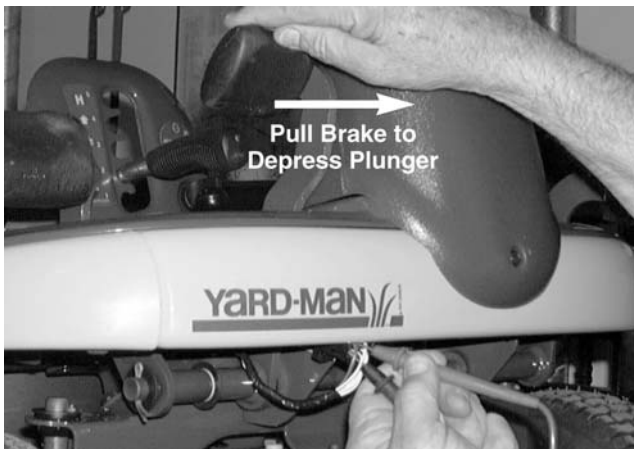

Figure 8-91.
–There will be **NO CONTINUITY**. See Figure 8-91.